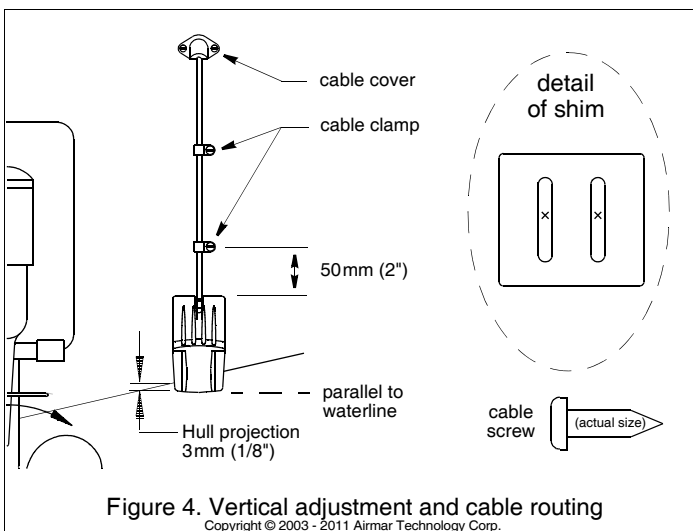

Figure 4. Vertical adjustment and cable routing
1. At the selected location position the transducer, so it projects 3mm (1/8") below the bottom edge of the transom (see Figure 4).
2. Using the vertical adjustment space in the bracket slots, slide the transducer up or down (see Figure 4). Be sure the bottom left corner of the transducer projections 3mm (1/8") below the bottom of the hull.
- b. Move the transducer deeper into the water in increments of 3mm (1/8") (see Figure 4).
1. If a hole must be drilled through the transom, choose a location **well above the waterline** (see Figure 4). Check for obstructions such as trim tabs, pumps, or wiring inside the hull. Mark the location with a pencil. Drill a hole using the appropriate size bit to accommodate the connector.